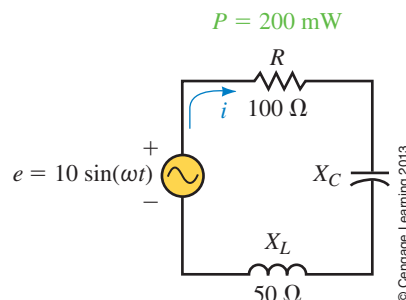

FIGURE 18–96
24. Refer to the circuit of Figure 18–96.